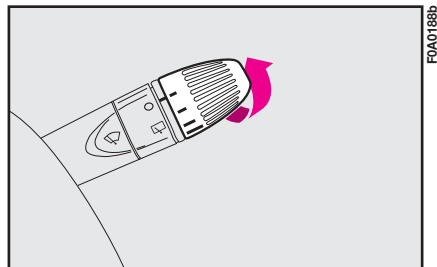

fig. 85
- 1** - flick wipe; in some versions, four selections are possible (from slow to fast **fig. 85**);